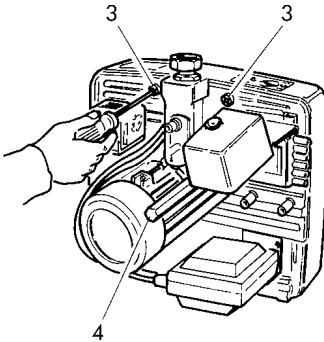

fig.2
- Unscrew the screws **3** and the central pin **4** (fig.2).